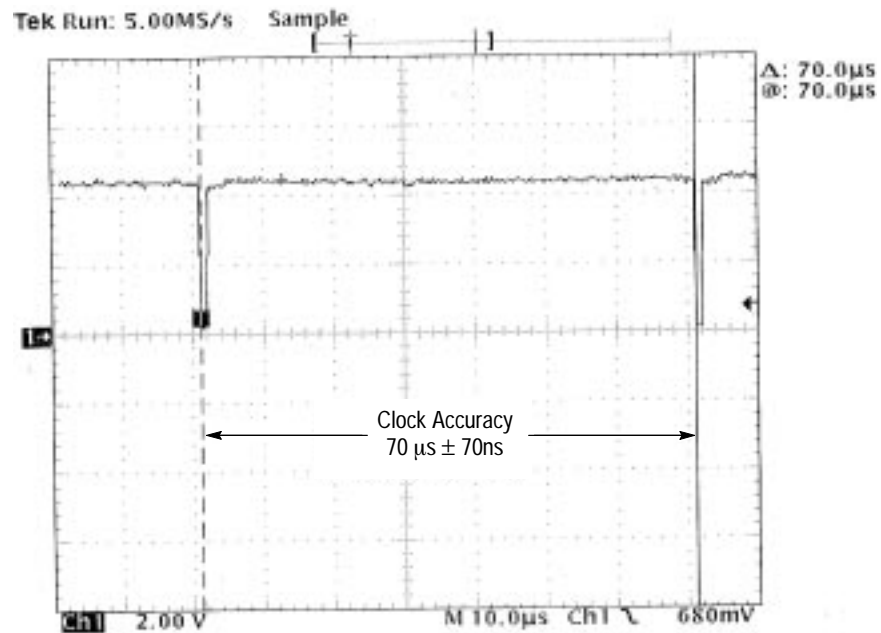

Figure 455-8: Clock Accuracy
4. Measure the time on channel 1, between the falling edge of one pulse to the falling edge of the next pulse. A measurement of $70\ \mu\text{s} \pm 70\ \text{ns}$ indicates that the clock and dividers are working properly. Refer to Figure 455-8.
9. Measure the time on channel 1 between the falling edge of one pulse to the falling edge of the next pulse. Refer to Figure 455-8 to verify a measurement of $70\ \mu\text{s} \pm 70\ \text{ns}$. This measurement indicates that the clock and dividers are working properly. .
Ignore the overshoot and ringing on the peaks of the pulses when measuring the peak-to-peak amplitude of the 1553 message on channel 2. Refer to Figure 455-8 to verify the peak-to-peak measurement.